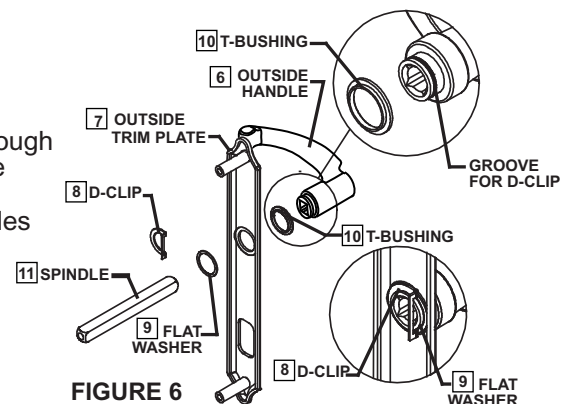

FIGURE 6
B. Insert outside handle through the T-bushing and outside trim plate. See Fig. 6.
C. On the back of the outside trim plate, place the flat nylon washer over the handle and slide the D-clip over the flat nylon washer, making sure that the D-clip is orientated vertically. Insert the square spindle all the way into the handle. Using the Hex wrench provided, tighten the set screw on the underside of the handle to hold the spindle in place. See Fig. 6.